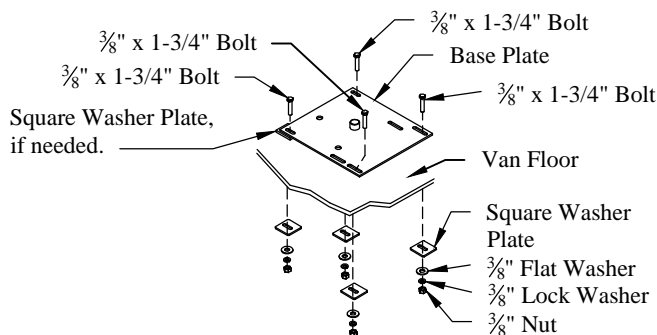

Figure 4: Base plate hardware.
- 9. Bolt** the base plate to the vehicle floor using the hardware provided (Figure 4).